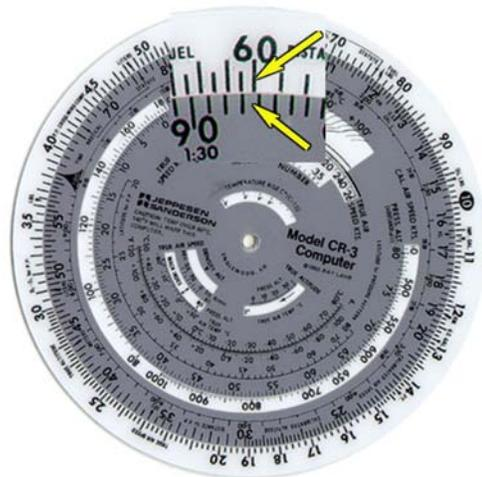

Figure 4.3-31 Fuel Conversion 4
3. Find 60 (6000 pounds) on the POUNDS (outer) scale and read the amount of total gallons on the GALLONS (inner) scale. (Figure 4.3-31)